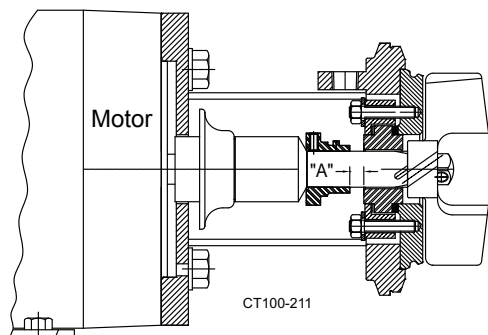

Figure 30 - Drive Collar Adjustment for "DG" Seal
Table 8: Callout dimensions for Figure 30
- Using an appropriate tool, set the drive collar to the dimension "A" as shown in Figure 30, and tighten the setscrew of the drive collar.